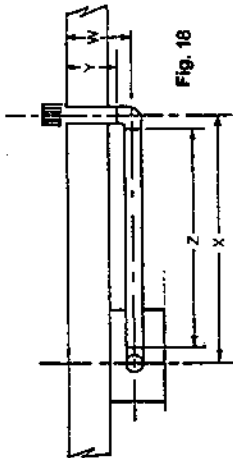

Fig. 18
- 5.5.23** Ensure when sitting the flue hole position that the combined distances (Y&Z on fig 18) between the flue elbow on the boiler to the extra bend and from the face of the outside wall to the extra bend do not total more than 3.75 metres.
- 5.5.24** Measure carefully the distance between the centre of the flue bend on the boiler to the centre of the hole through the wall (dimension X fig. 18).
- 5.5.31** Ensure that the flue pipe runs parallel to the wall then carefully measure the distance from the outside face of the wall to the centre of the extra bend (dimension W fig. 18).